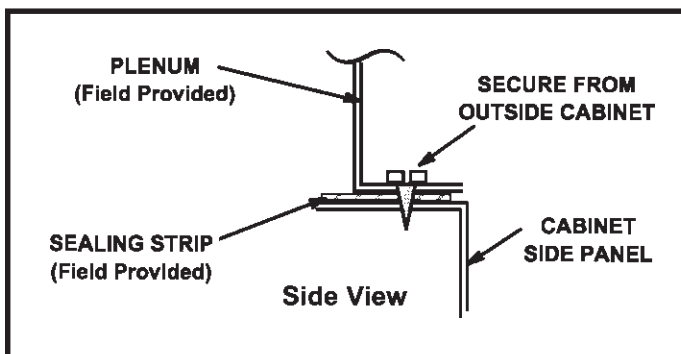

Figure 11
1. Bottom edge of plenum should be flanged with a hemmed edge (See figure 11 or 12).